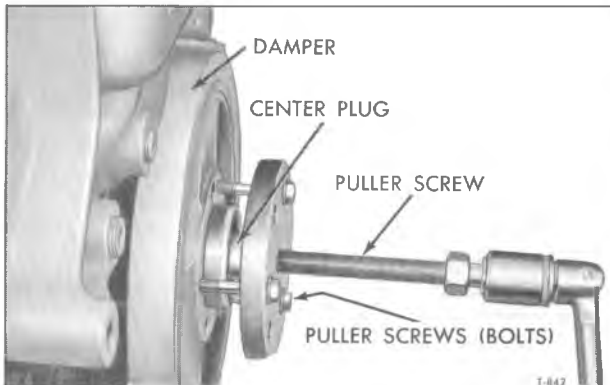

Figure 11—Tool Application for Removing Crankshaft Damper
3. Assemble puller (J-7879-01) in manner shown in figure 11 and remove damper from crankshaft. A center plug is used at end of crankshaft to serve as bearing for puller screw.